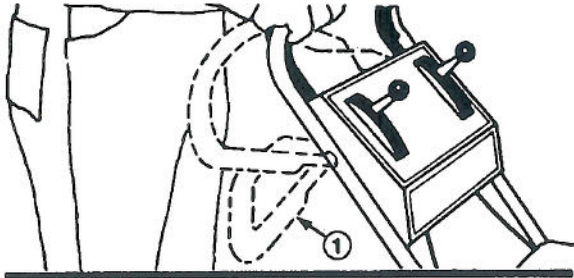

Figure 23
2. Push the control bar down to the lowest position (Fig. 23). This "cocks" the mechanism prior to engaging the blade.
3. Lift the control bar to the normal "blade engaged" position, about 1" below the handle (Fig. 23). The "fan" noise and bag inflation indicate that the mower blade is engaged and rotating.
6. Push the control bar down to its lowest position, cocking the mechanism (Fig. 23).